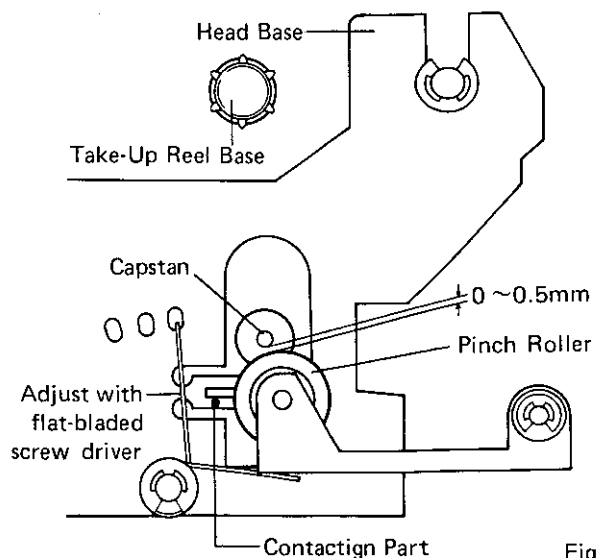

Fig. 8
1. Depress the PAUSE lever when the deck is in up reel base starts to rotate, the gap between the pinch roller and capstan should be no more than 0.5mm. (See Fig. 8).